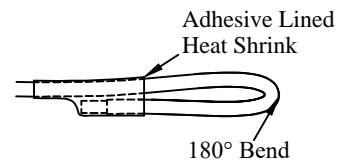

Figure 8: Sealed Wire End
- 6. Seal** the remaining white and brown blunt-cut wires as shown (Figure 8).